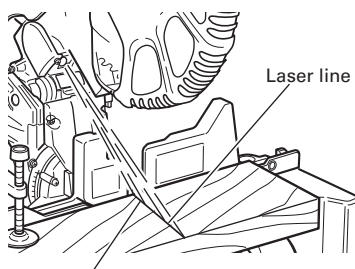

Fig. 20
- (3) After adjusting the position of the laser line, draw a right-angle ink line on the workpiece and align the ink line with the laser line. When aligning the ink line, slide the workpiece little by little and secure it by vise at a position where the laser line overlaps with the ink line. Work on the grooving again and check the position of the laser line. If you wish to change the laser line's position, make adjustments again following the steps from (1) to (3).
**NOTE:** Check and make sure on a periodic basis if the position of the laser line is in order. As regards the checking method, draw a right-angle ink line on the workpiece with the height of about 1-1/2" (38mm) and the width of 3-1/2" (89mm), and check that the laser line is in line with the ink line [The deviation between the ink line and the laser line should be less than the ink line width (0.5mm)]. (Fig. 20)